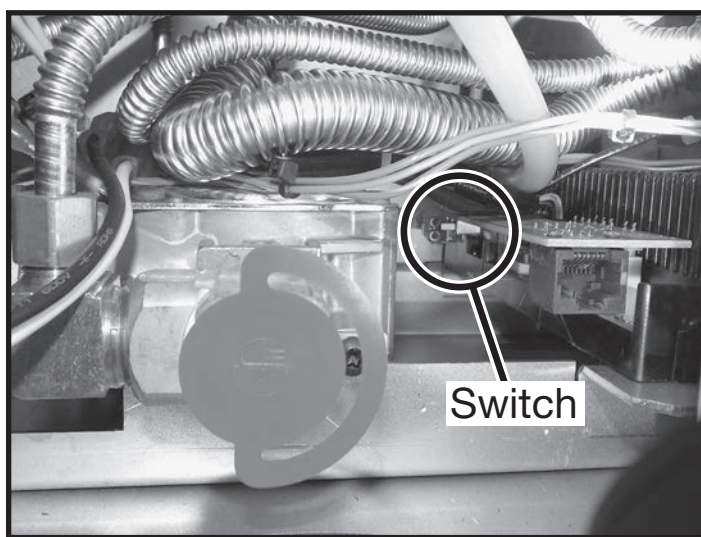
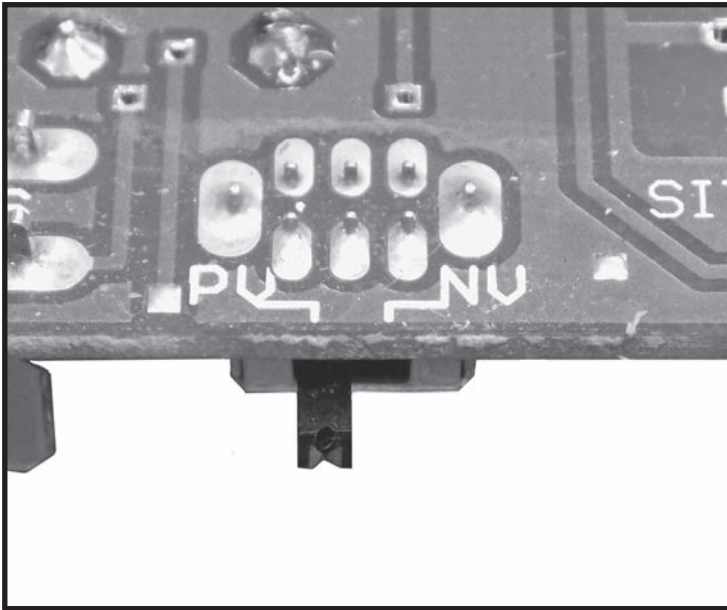

Figure 24: Vent selector switch.
Figure 25: Power vent switch.
3. Ensure that the switch on the IFC board is set to PV (Power Vent). Access to the switch can be made from the compartment opening (Figure 24). Reach in and make sure that the switch is pushed away from you. This will ensure that the switch is set for power venting (Figure 25). For more detail regarding the power vent selector switch, “Selecting Natural Vent and Power Vent Modes” on page 18.